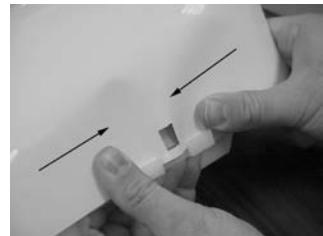

Figure 4-4
1. Push the plastic shield on either side of the locking tab to buckle and unlock the shield from the motor control bracket. (**Figure 4-4**)